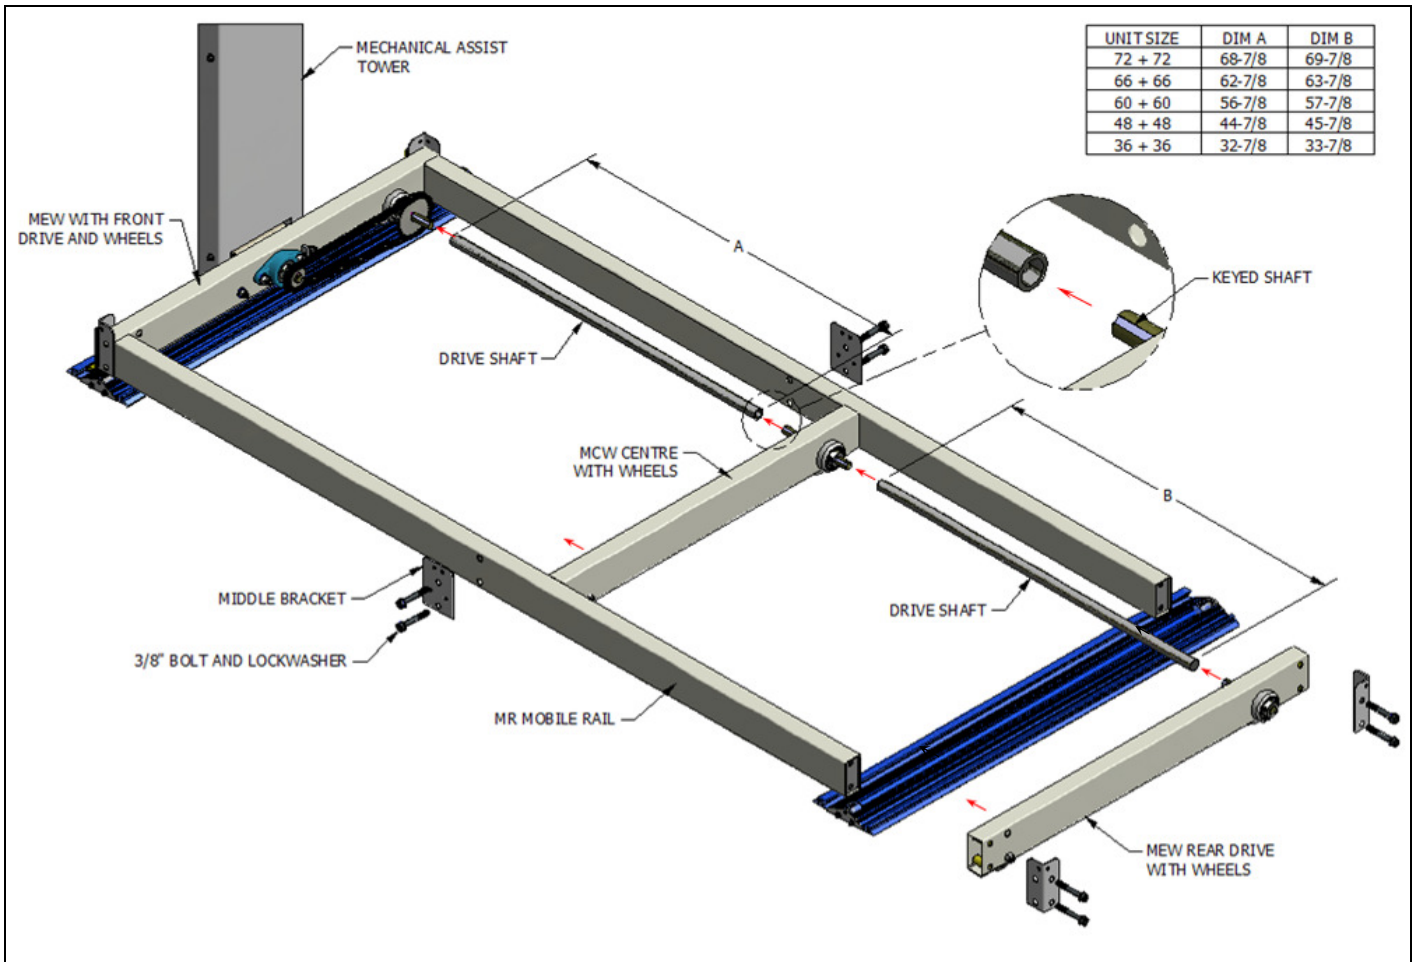

Figure 1: Mobile Base Assembly
1. Assemble the mobile aisle rectangular base with the Mobile End Wheels (MEW) front drive and install the drive shafts as per the Mobile Base Assembly drawing shown in **Figure 1** below.